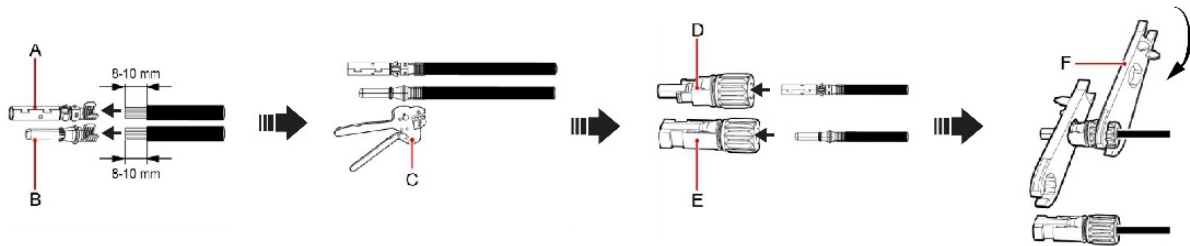

Figure 13A: Connection between DC connector and solar modules
1. Connect the output cables of the solar modules to the DC connector as shown in figure 13A. Remove the isolation layer of the DC cable for about 8-10 mm. Insert the conductor part into the connector at the appropriate position, crimp the MC4 DC terminal and tighten the nut with a torque of 2.5-3 Nm. Ensure the poles of solar modules are well connected with the connectors;